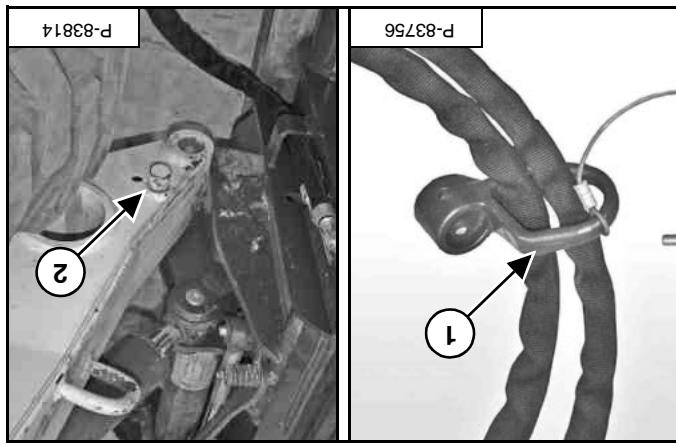

Figure 13
**Note:** Some attachments are factory equipped with a removable hose guide (item 1) installed on the hydraulic hoses. The removable hose guide is factory installed for use with Bobcat mounting post kits (item 2) [Figure 13]. Removable hose guide is factory installed for use with Bobcat loaders equipped with a mounting post (item 2) [Figure 13]. Removable hose guide is available through your Bobcat dealer.